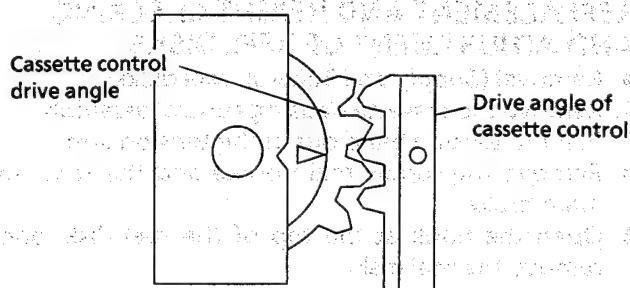

Figure 4-2.
1. Before installation of the cassette housing control assembly, make a short-circuit between TP5001 and TP5002, both located on the timer PWB. Plug in the power cord. The cassette control drive gear starts and stops just when a tally mark appears in the mechanism chassis window. Unplug the power cord, and remove the short-circuit from between TP5001 and TP5002. Align this tally mark with the cassette control drive angle's mark, as shown in Fig. 4-2, to position the cassette control on the mechanism chassis.